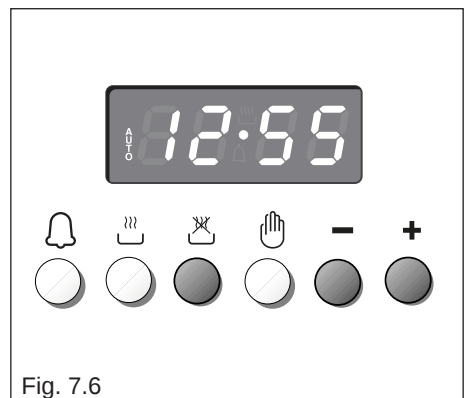

Fig. 7.6
2. Set the end of the cooking time by pressing the  button (the cooking time already added to the clock time will appear), and the  button (fig. 7.6); if you pass the desired time you may get back by pushing the  button. After this setting, the  symbol will disappear. If after this setting, the **AUTO** flashes on the display and a buzzer sounds, it means there was an error in the programming, that is that the cooking cycle has been superimposed on the clock. In this case, modify the end of cooking time or the cooking period itself by following again the above mentioned instructions.